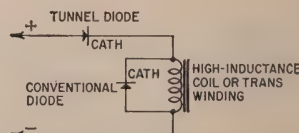

Fig. 3—Protective circuits use standard diode across high-inductance coils.
7. Protect the diode from surges. Protect the diode from destructive kick-back voltages by installing a safety device (varistor, surge-limiting resistor or reverse-connected germanium, silicon or selenium diode) across any high-inductance coil in the circuit (Fig. 3). High kickback voltages produced by collapse of the magnetic field of a high-L coil can wreck a diode in a fraction of a second.
9. Don't exceed maximum rated power dissipation. The dc power input (P) to the diode is the product of the bias voltage and the resulting current: $P = EI$, where P is in watts, E in volts and I in amperes. If E is expressed in millivolts and I in milliamperes, $P = .001EI$ milliwatts. Consult the manufacturer's data sheet for maximum permissible power dissipation at the desired operating temperature. Excessive dissipation can shift the diode operating point, upset operation of a circuit or destroy the diode.